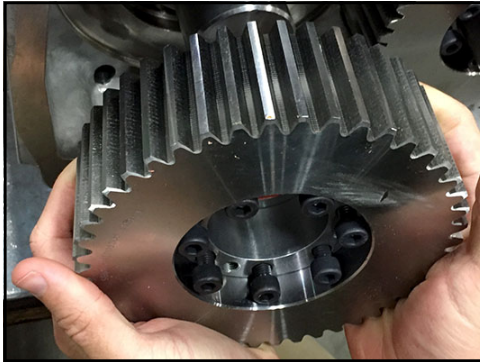

Figure 258 - Remove gear
4. Pull the gear and locking assembly off the shaft and place it on a protected surface as shown in Figure 258.